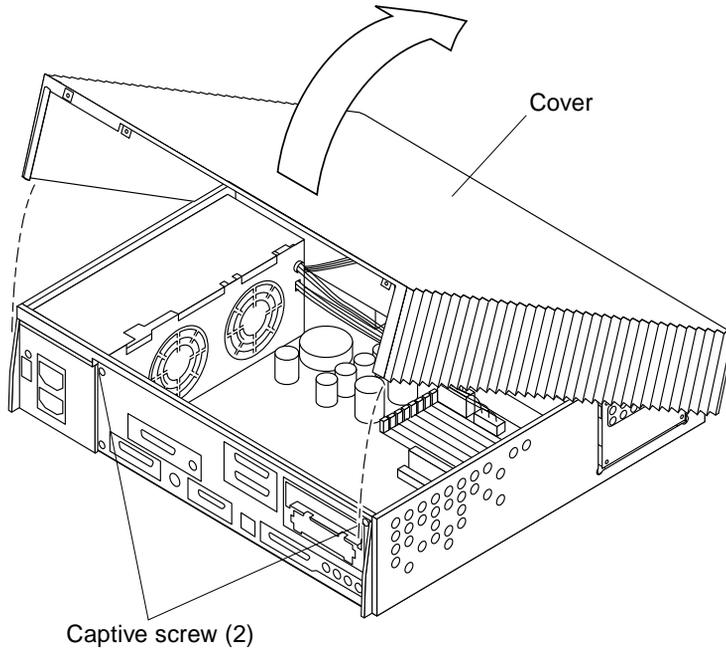

FIGURE 7-2 Removing the Cover
- 3. Loosen the captive screws securing the cover (FIGURE 7-2).**